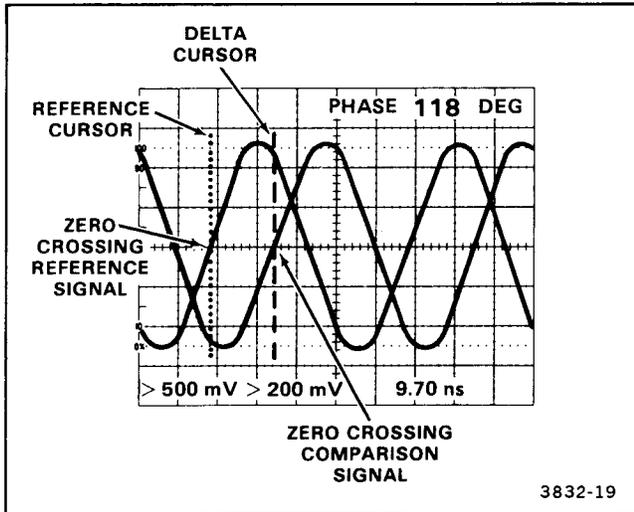

Figure 6-7. Phase difference between two time-related signals.
8. Use the  $\Delta$  REF OR DLY POS control to align the Reference cursor with a zero-crossing of the reference signal (see Figure 6-7). Use the center horizontal graticule line as the zero reference for aligning the crossover point.